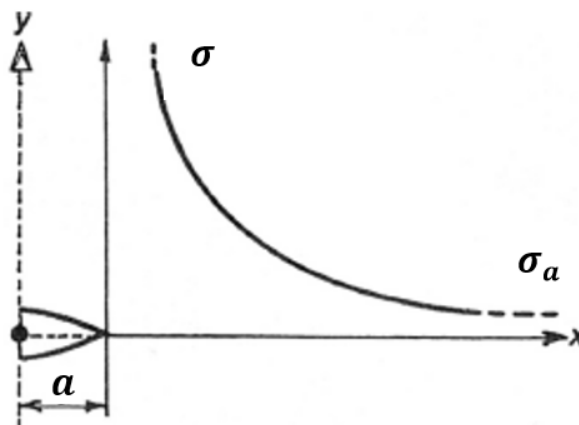

Figure 4 (a)
4. (a) An elastic stress ahead of a crack as a function of distance from the tip can be graphically represented in Figure 4 (a):